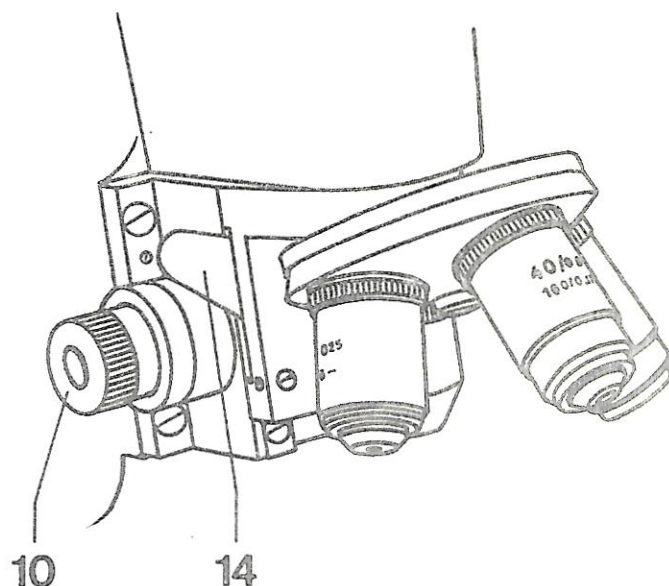
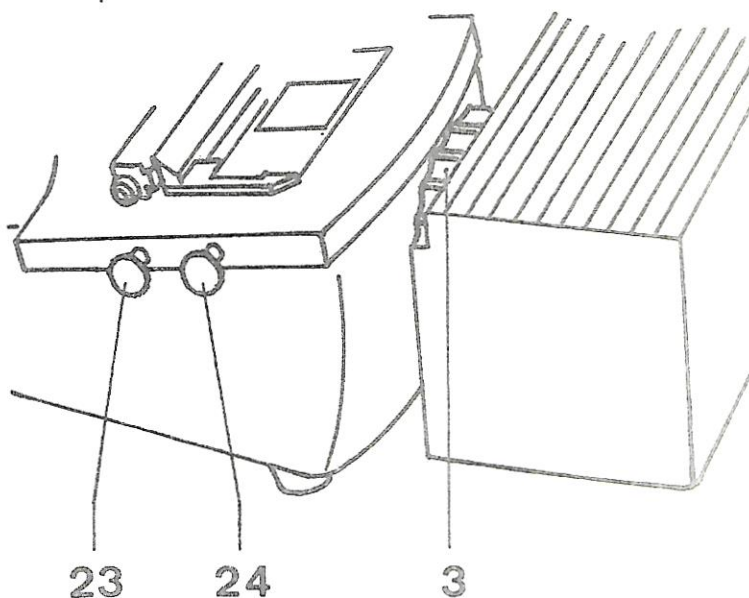

Fig. 7
Fig. 8
Switch on the transformer and swing the lowest power objective available (e.g. Plane 4/0,10) into the ray path. Put the front lens of the illuminating system into operation by completely pushing in knob (24/ Fig.8). By altering the height of the objective with lever (14/ Fig. 7) respectively by turning the control (3) of the lamp collector the bulb filament is imaged on the frosted screen.